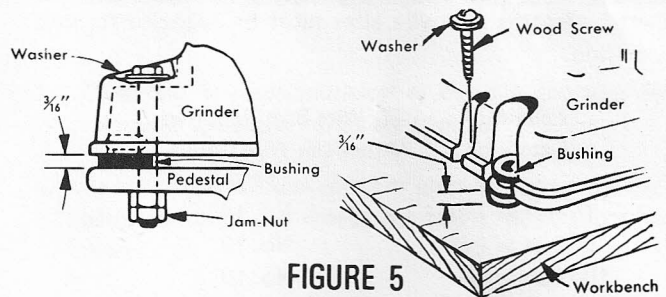

FIGURE 5
To mount your grinder to the pedestal, align slots in base with corresponding holes in table of the pedestal. Use two $\frac{5}{16}$ bolts 2 inches long with flat washers beneath the heads. Tighten nuts until space between grinder base and pedestal is $\frac{3}{16}$ inch. See figure 5.
To mount your grinder to the bench top use two $\frac{5}{16}$ wood screws 2 inches long with flat washers beneath the heads. Tighten screws until clearance between base and surface of bench is $\frac{3}{16}$ inch. See figure 5.
2. The tool rests should be positioned securely so that a clearance of approximately 1/16 inch can be maintained between wheel and tool rests. Adjust the tool rest so that the material to be ground will contact the wheel slightly above center-line of shaft at the desired angle, as shown in figure 5 above.